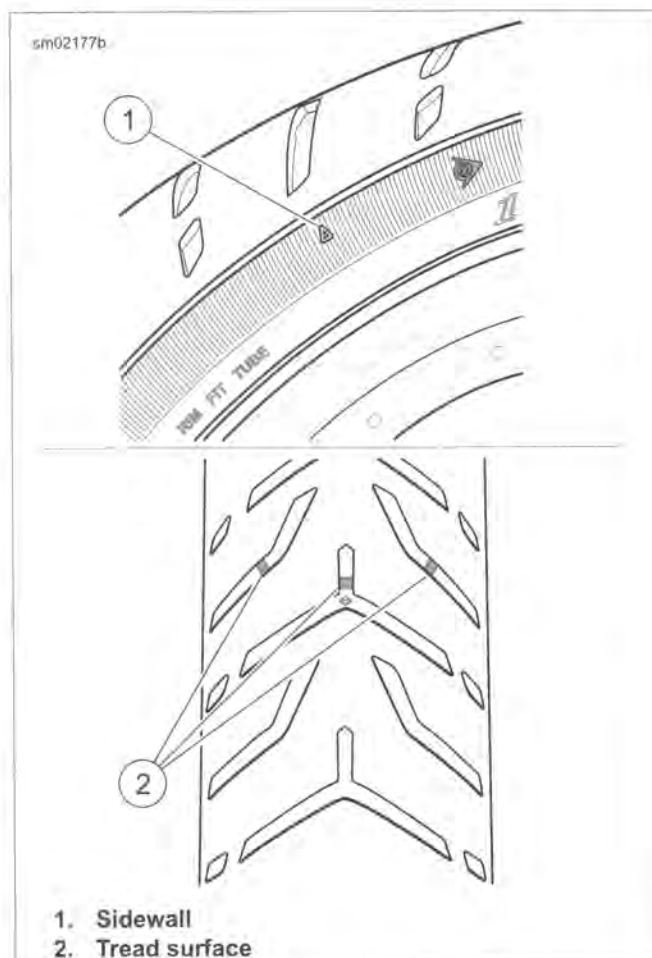

Figure 2-37. Tread Wear Indicators (Typical)
- See Figure 2-37. The tread wear indicator bars will appear on tire tread surfaces when $1/32$ in (0.8 mm) or less of tread remains. Always replace tires before they reach the tread wear indicator bars.